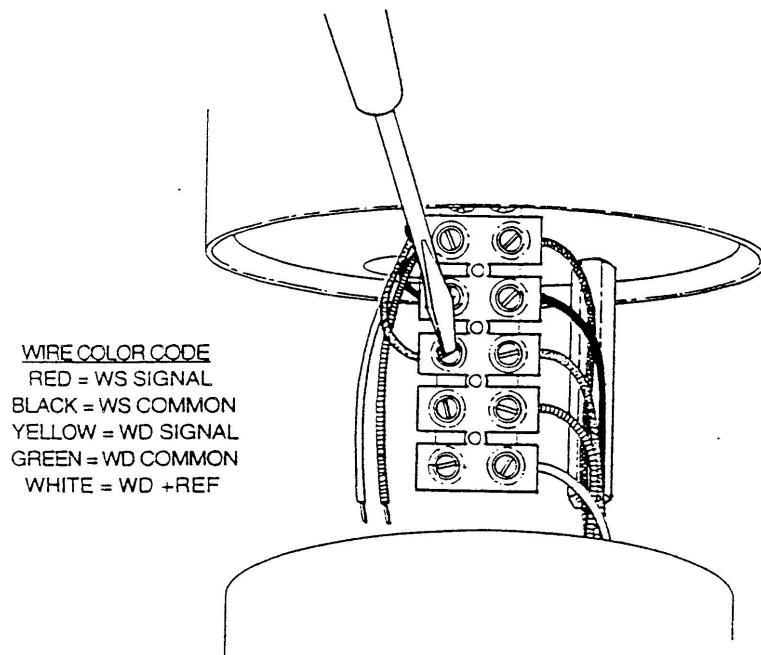

FIGURE 4-2
B. Refer to figure 4-2. With small common screw driver, loosen the three wire contacts of the white, green, & yellow wires going to Pot. Gently pull the wires free from the terminal block and straighten them enough to allow easy passage through the stem on the top of sensor.
j. Refer to Figure 4-2. Feed Pot/Mount Assembly wires into center hold in sensor stem. Note the location of the flat on the sensor stem as re-alignment of the Pot/Mount Assembly is critical to re-establish factory calibration.
M. Re-open sensor body, connect pot wires in terminal block, matching wire colors. Refer to Figure 4-2.
- G. Using care to avoid stressing switch leads while routing, connect the switch wires in the terminal strip. Match wire colors with sensor connector harness. Refer to Figure 4-2.